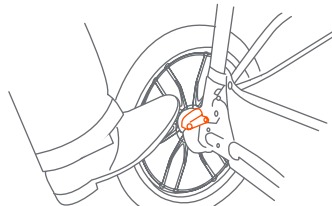

Fig. 14
- 14) • To engage brakes, apply downward pressure to the brake levers located on the rear axle. The stroller may require forward or rearward movement in order to engage the brake (Fig. 14). Check that the stroller will not move once the brakes are properly applied. To release, gently lift up on the brake levers.